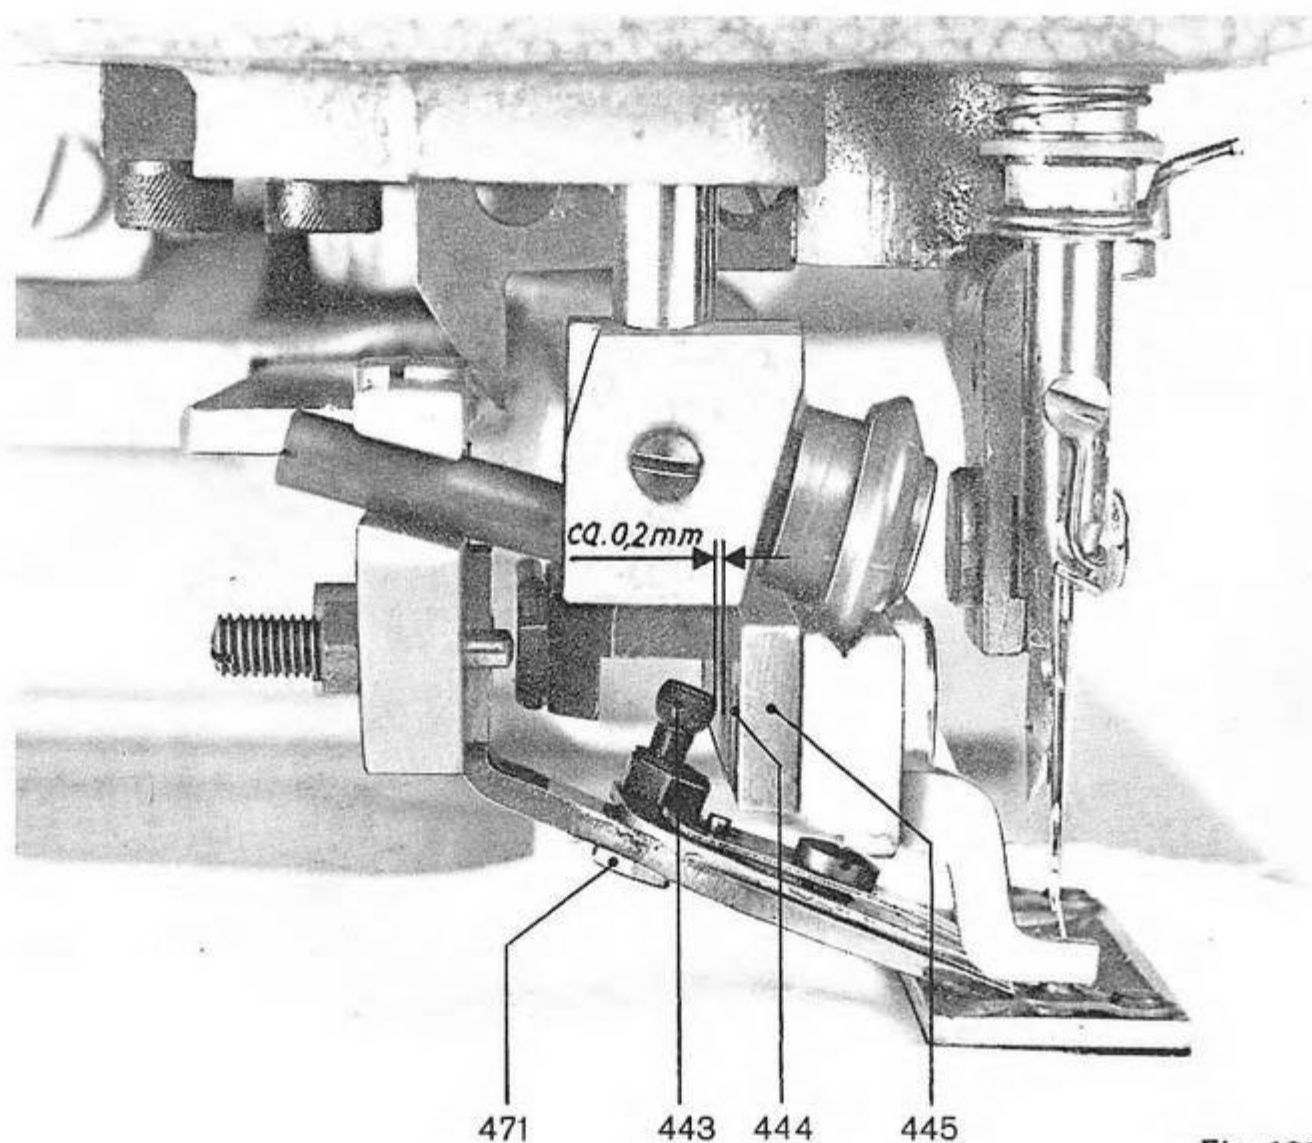

Fig. 123
12. While the scissors are in their r/h final position, as described above, loosen the counter nut 471 and set the bolt 443 (fig. 123) so that **with the scissors fully closed** the distance between the bolt 443 and the r/h side 444 of the stop ledge 445 amounts to about 0.2 mm. See fig. 123.